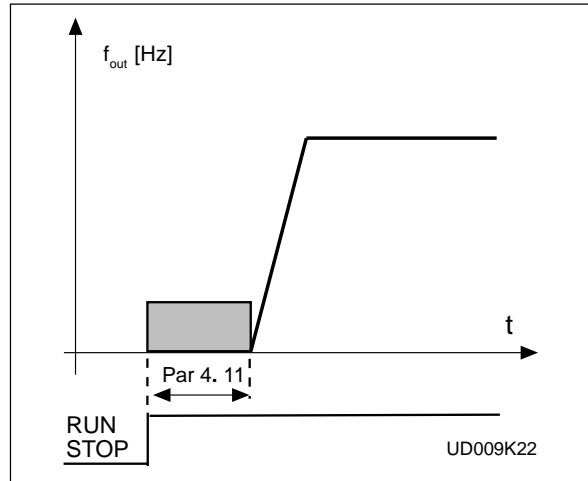

Figure 3.5-25 DC-braking time at start.
- >0** DC-brake is active when the start command is given. This parameter defines the time before the brake is released. After the brake is released, the output frequency increases according to the set start function parameter 4. 6 and the acceleration parameters (1.3, 4.1 or 4.2, 4.3). See figure 3.5-25.